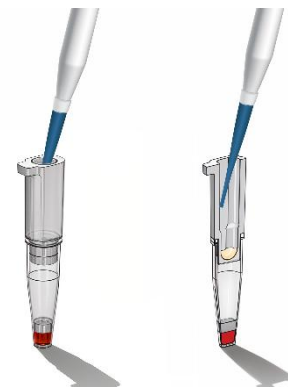

Figure 1: Representation of notched side of vCAP
2. An Internal Control (IC) is included in each reaction and processed with every specimen to monitor amplification, detection, and, where applicable, nucleic acid extraction and PCR inhibition. A valid IC result is required for each sample. Failure of the IC may indicate inhibition, reagent failure, or instrument malfunction; in such cases, the sample result shall be considered invalid and testing should be repeated according to laboratory procedures.
3. Positive Control Usage: Positive Control (PC) is recommended to verify reagent integrity and assay performance and should be tested at least once per week during routine use, when no amplification is observed in any reaction within a run, with each new reagent lot or shipment, after instrument maintenance or service, and during training or troubleshooting. The PC must yield a positive result for the intended target(s).
4. A Negative Control (NC) is recommended to monitor contamination and should be tested at least once per day of testing or with each PCR run, with each new reagent lot or shipment, after instrument maintenance or service, and during training or troubleshooting. The NC must yield a negative result for all targets. If any control fails to produce the expected result, the associated run shall be considered invalid, the cause of failure should be investigated, and testing should be repeated according to laboratory procedures.
6. Add **10 μ l of Template Nucleic Acid (sample)** to the wall on the notched side of the vCAP tube in each well of the "WMV Rxn Strips". (**Figure 1**)
7. **Positive Control Test (at first use of a kit box or when troubleshooting):** Add **10 μ L of "Control Template"** to the wall on the notched side of the vCAP tube in each well of the "PC-WMV Rxn Strips". (**Figure 1**)
8. **Negative Control Test:** In each run, add **10 μ L of "Control Template"** to the wall on the notched side of the vCAP tube in each well of a new "WNV Rxn Strips". (**Figure 1**)